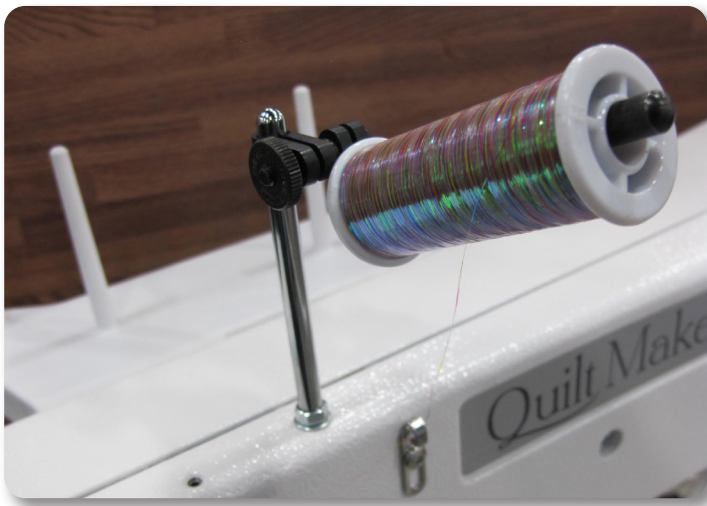

Figure 16
2. The horizontal spool pin mounts on the laser stylus guide post on the top of the machine (see Figure 16).